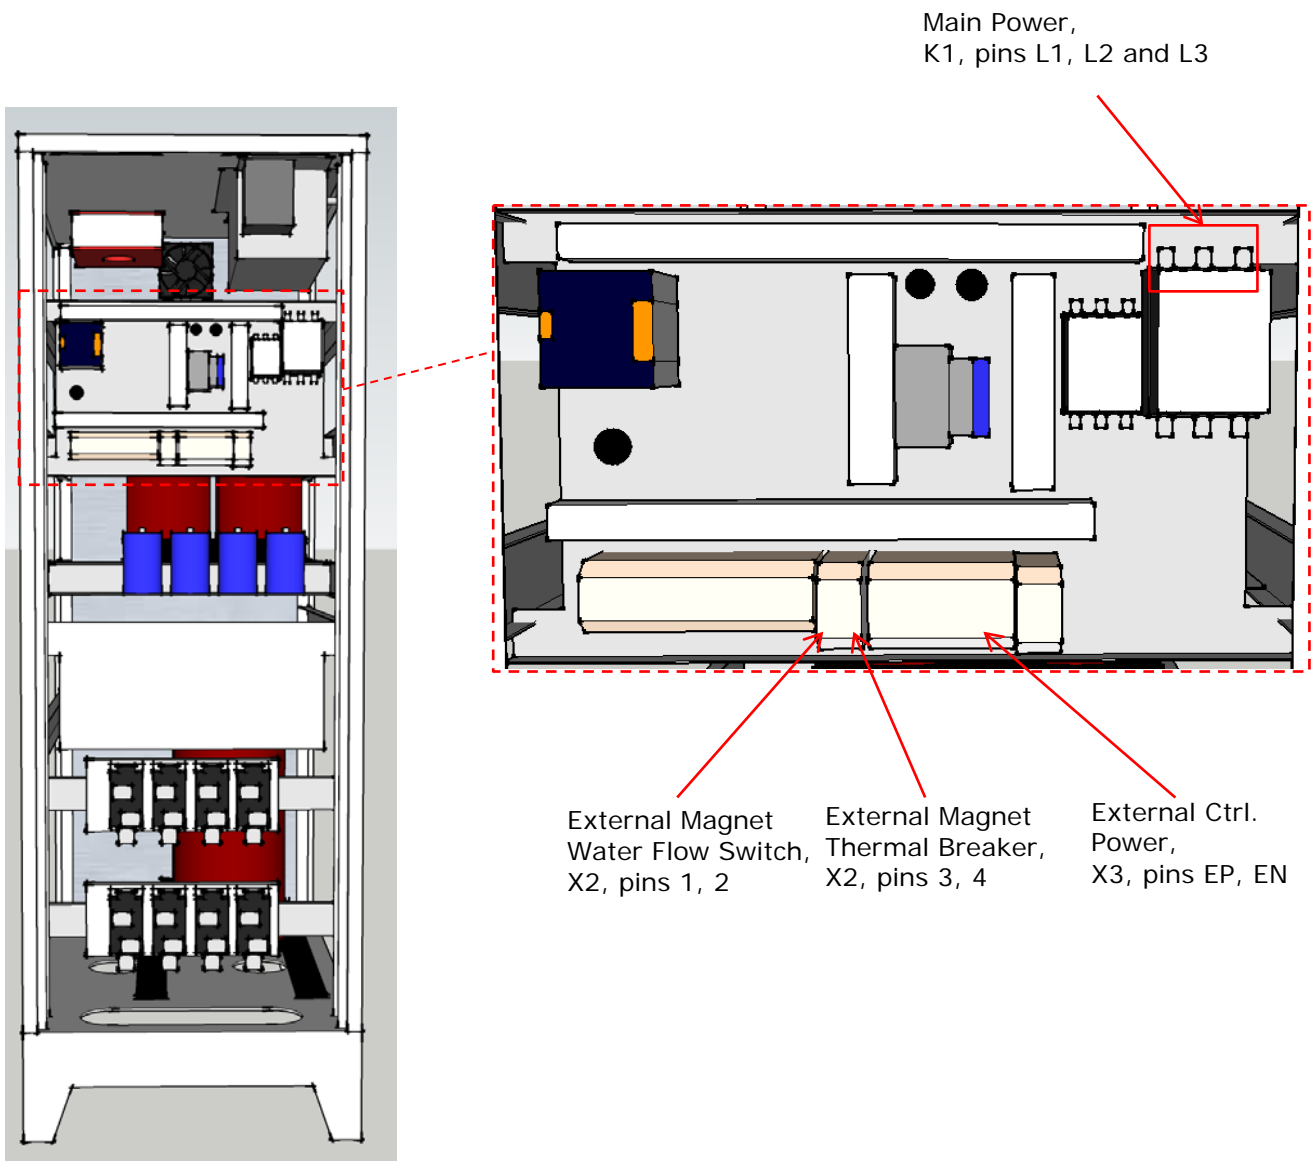

Figure 2. Electrical connections, cabinet rear
- The connection for Main power is located on the contactor plate behind the back door. See Figure 2 above. Note! Connection may differ from default, if the MPS is equipped with an EMI-filter. Please refer to the main schematic.
- The connection for external control power is located on the contactor plate behind the back door. See Figure 2 above.
- The connection for the water flow switch (denoted X2 on main schematic) is located on the contactor plate behind the back door. See Figure 2 above.
- The connection for the thermal breaker (denoted X2 on main schematic) is located on the contactor plate behind the back door. See Figure 2 above.